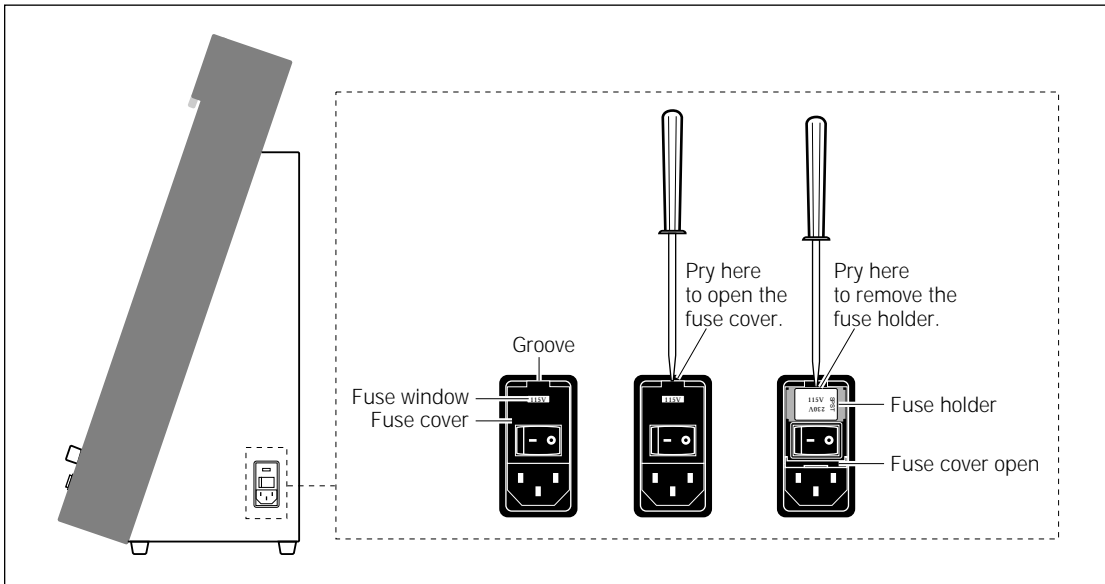

Figure 14-3. Opening the fuse box.
2. Note the voltage (115V or 230V) showing in the fuse window (figure 14-3).
4. Place the end of a small flathead screwdriver in the groove and pry open the fuse box (figure 14-3).